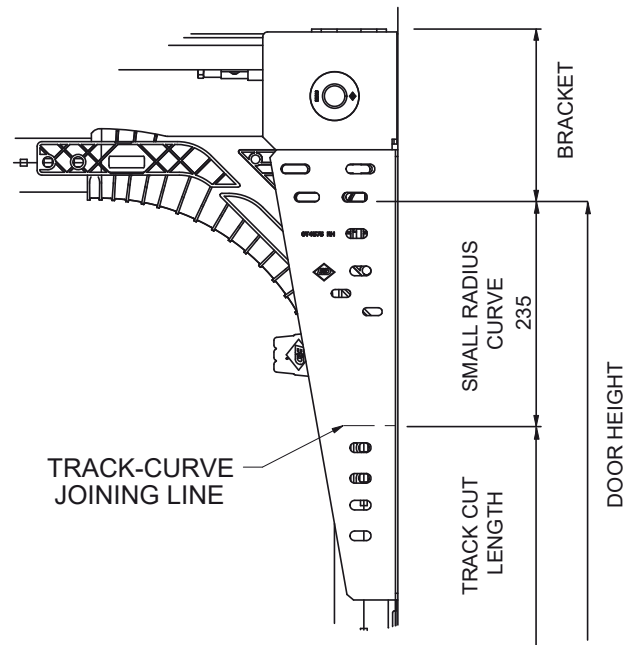

Fig. 5.5.1
- a) Using Figure 5.5.1 and tables above calculate the track length and headroom requirements, before ensuring tracks are cut to correct size.